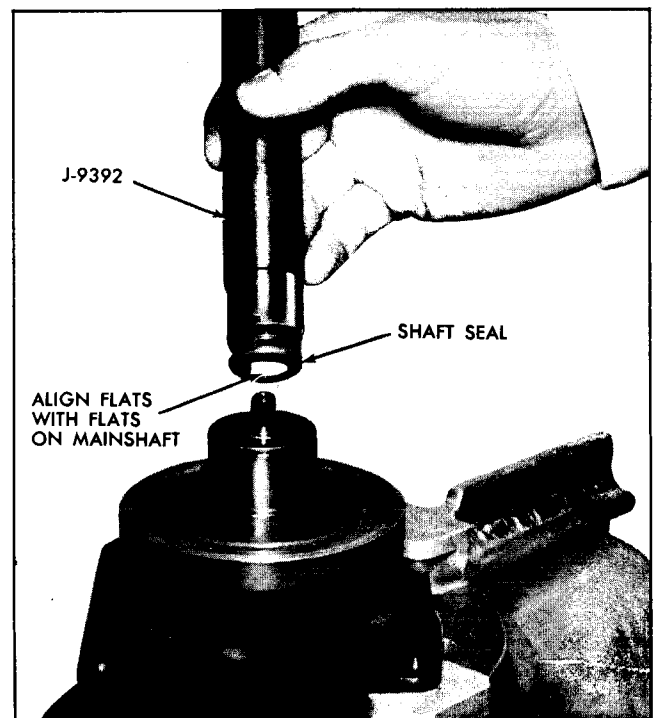

Fig. 1A-73 Removing Shaft Seal Assembly
7. Remove shaft seal seat using J 23128. Insert the knurled collet into the recess in the seal and tighten the knurled handle as tightly as possible by hand and remove seal seat with a twisting motion (Fig. 1A-72).